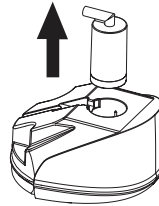

Fig.3
2. Take the filter upwards out from the water fill hole. (You can take the filter out of the opening for filling water into water tank, or fill water into water tank directly with the filter existing in the opening).(Fig.3)